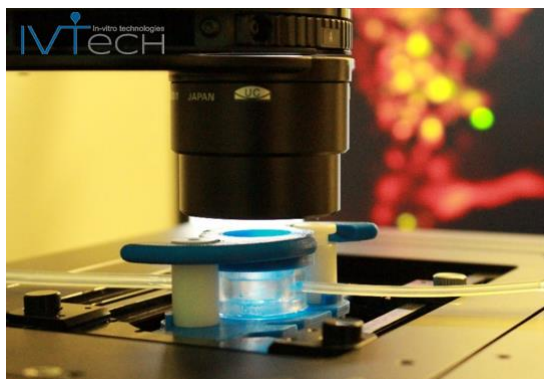

Figure 2. LiveBox1 monitored with an inverted microscope
- IVTech products are optically transparent and designed to fit with the majority of microscope stages, enabling real time monitoring and imaging during cell culture experiments (Figure 2);